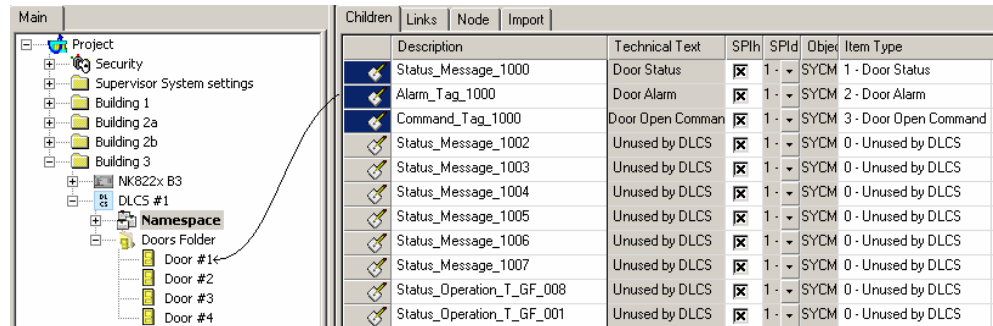

Fig 11 Linking OPC items from the Namespace Children tab
**Note:** If you are familiar with the Composer tool, click the Children tab of the 'Namespace' node. At this point, you can select the three associated items (keep the Ctrl key pressed and click them all) and then drag and drop them together to the corresponding door node (see Fig 11).